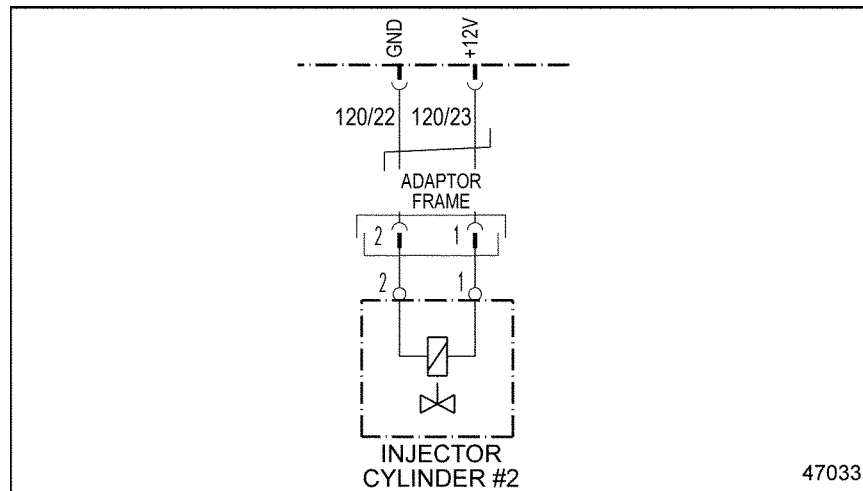

Figure 25-2 **Injector #2**
5. Measure the resistance between pin 1 of injector #2 and ground. See Figure 25-2.